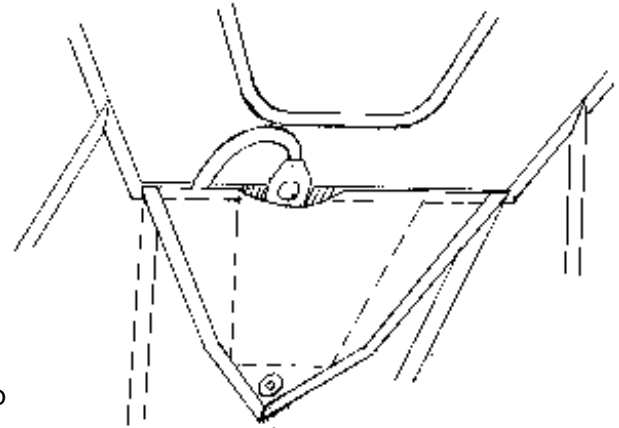

Figure 7-1
Step 3 Pull plenty of cable slack through the channel. Thread the control unit through the gap provided under the top hinge area of the #1 reserve sub flap. (Figure 7-1)